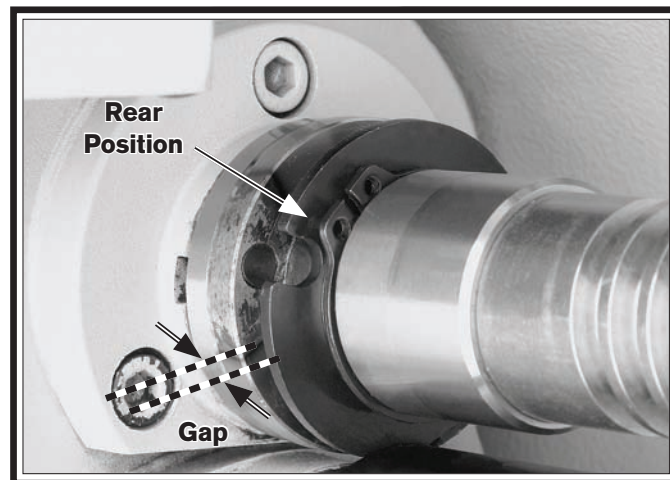

Figure 145. Shear pin access.
6. Move the shroud washer away from the shear pin (to the rear position), as shown in **Figure 145**, so there is enough of a gap to remove the shear pin.